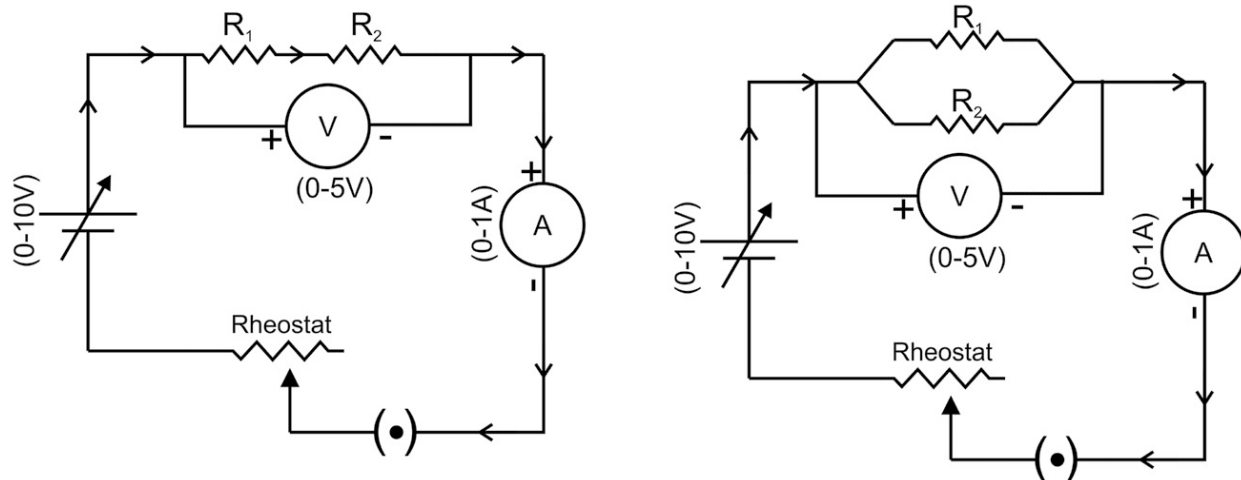

Fig P7.1
1. Connect the circuit according to the circuit diagram (Fig. P7.1) with R_1 only.
8. Connect the two resistances R_1 and R_2 in series combination as per the circuit diagram (Fig. P7.1).